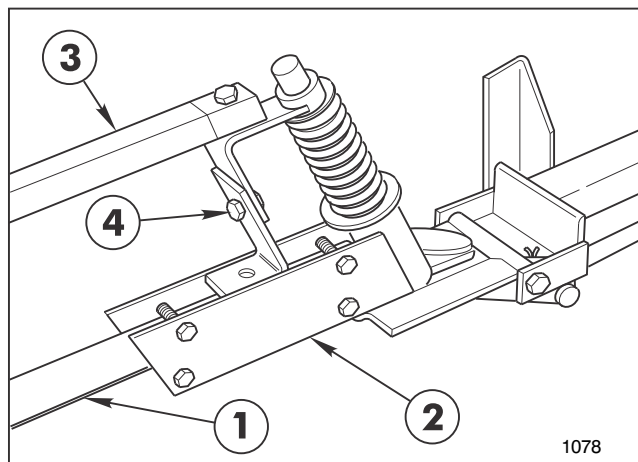

FIG. 14
13. Insert the plugged end of an Extension Boom Pipe into the Pivot Assembly and secure with four (4) 1/4" x 1-1/4" cap screws and lock nuts. See FIG. 14 Repeat on the opposite side to assemble the other Extension Boom.